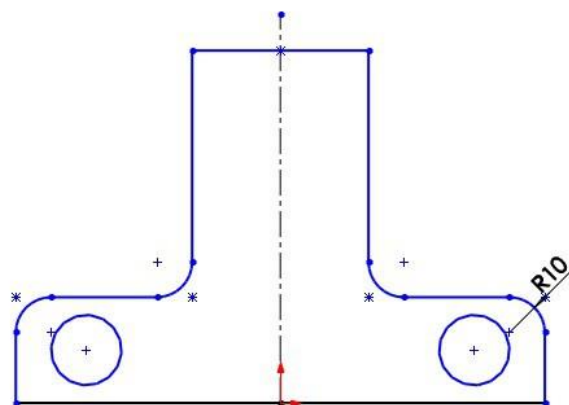

Figure 3-20 Sketch after creating the fillets
- Apply fillets, refer to Figure 3-20.
5. Choose the **OK** button twice from the **Sketch Fillet PropertyManager** to exit from it. The sketch after creating the fillets is shown in Figure 3-20.